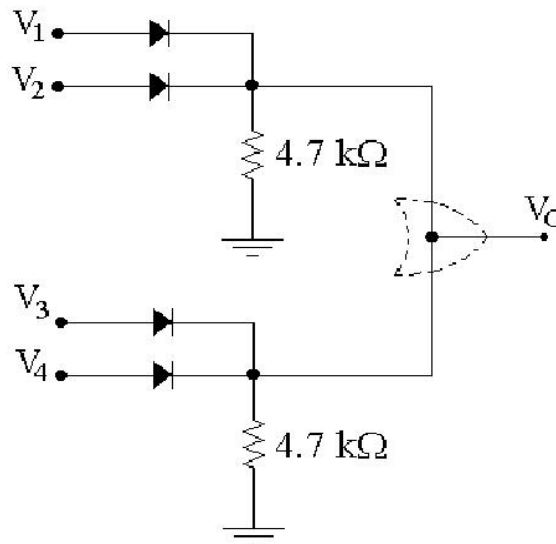

Figure 4 : Wired- Logic OR Gate.
1- Construct the circuit as show in Figure 4.
- 1- Verify theoretically that circuit of Figure 4 is in fact a 4-input OR gate.